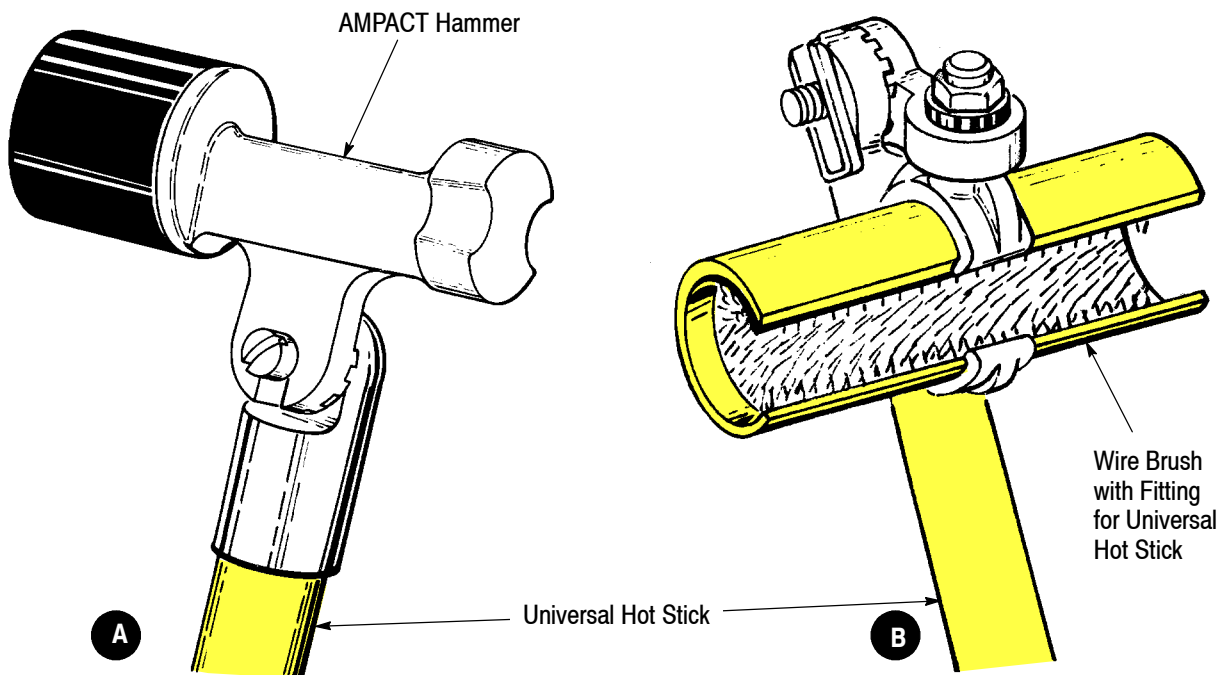

Figure 7
1. Attach AMPACT hammer to one end of the universal hot stick. See Figure 7,A.
2. Attach wire brush to the other end of universal hot hot stick. See Figure 7,B.